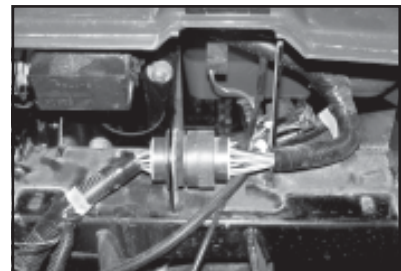

Figure 2
2. Disconnect the main chassis harness wiring from the dashboard harness (Figure 2).
4. Install two screws securing the fuse box to the frame (Figure 2). Tighten screws to general torque specifications.